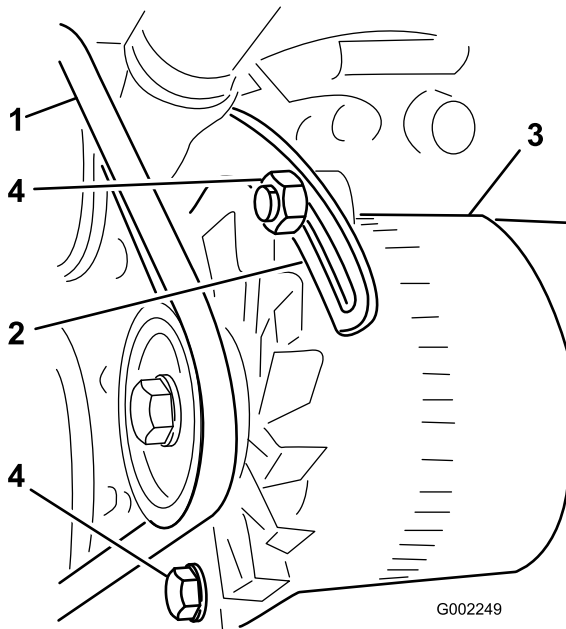

Figure 74
3. Loosen the bolts that secure the brace to the engine and the bolt that secures the alternator to the brace (Figure 74).